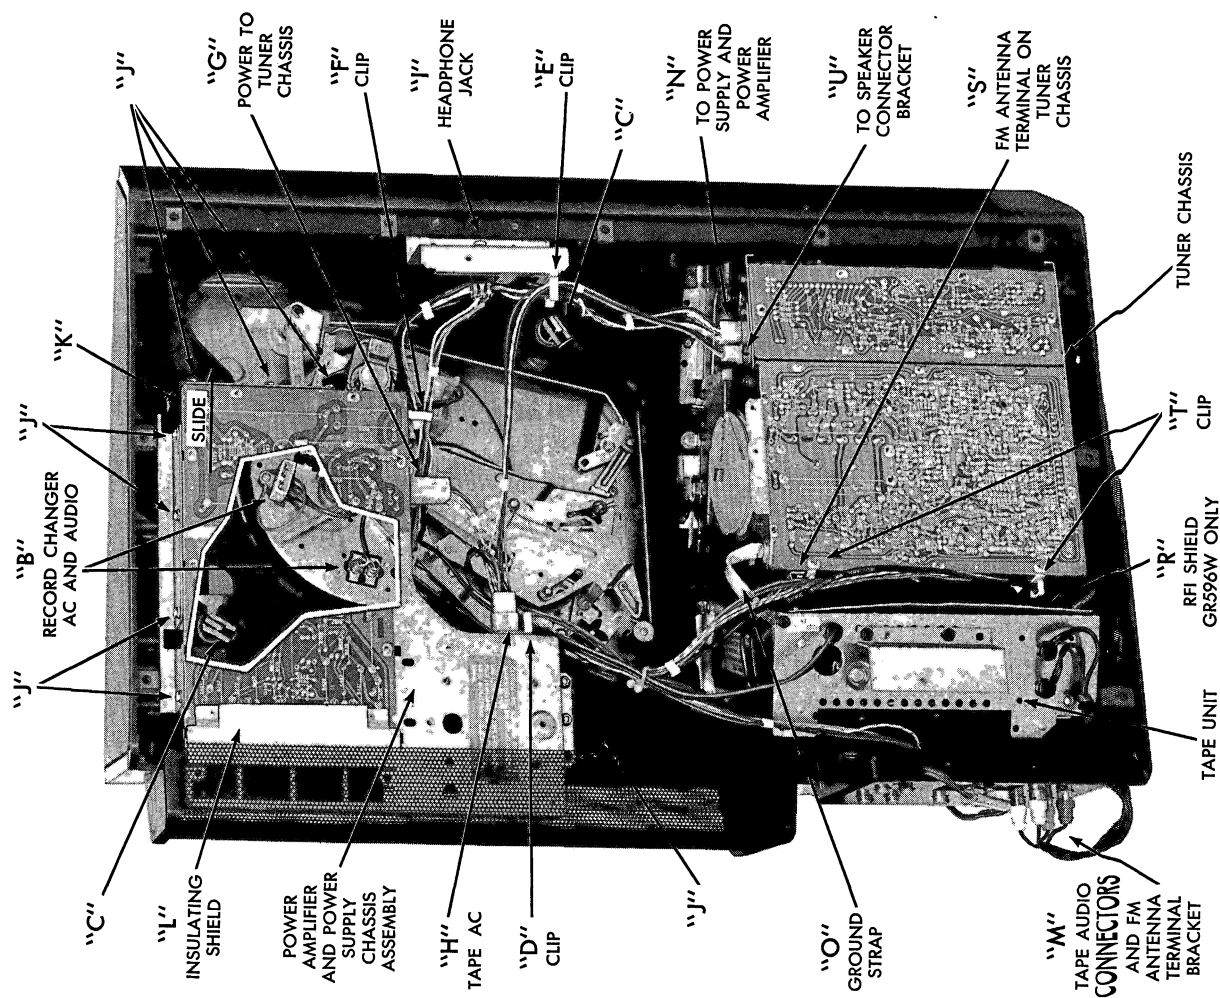

FIGURE 26 - MODELS G596W AND GR596W
2. Release one (1) record changer mounting clip (located above headphone jack — "C" in Figure 26).
3. Lift record changer upward and disconnect AC and audio cables at record changer (visible above amplifier chassis — "B" in Figure 26).
2. Release interconnecting cables from retainers ("D" and "E" in Figure 26).
3. Unplug record changer AC cable at record changer ("B" in Figure 26).
4. Unplug two connectors on this chassis ("G" and "H" in Figure 26).
5. Unplug connector on tuner chassis ("N" in Figure 26).
6. Disconnect FM antenna connector ("M" in Figure 26).
7. Dismount headphone jack ("I" in Figure 26) from bracket.
8. Remove nine (9) screws holding chassis assembly and mounting brackets ("J" in Figure 26).
9. Remove chassis by sliding in direction of arrow ("K" in Figure 26).
10. When replacing chassis be certain that insulating shield ("L" in Figure 26) is between chassis and rear grille.
2. Unclip and disconnect tape unit audio cables at rear panel connectors ("M" in Figure 26).
3. Unclip and disconnect tape unit AC cables at power supply chassis ("D" and "H" in Figure 26).
4. Disconnect group strap between tape unit and tuner chassis ("O" in Figure 26).
7. Slide tape unit out through front panel (noting location of RFI shield on Model GR596W — "R" in Figure 26).
2. Remove four (4) screws holding FM Antenna and Tape Bracket ("M" in Figure 26).
3. Unclip and disconnect cables ("D", "G", "N", and "U" in Figure 26).
4. Disconnect ground strap between tape and tuner chassis ("O" in Figure 26).
8. Slide tuner chassis out through front panel (noting location of RFI shield on Model GR596W — "R" in Figure 26).